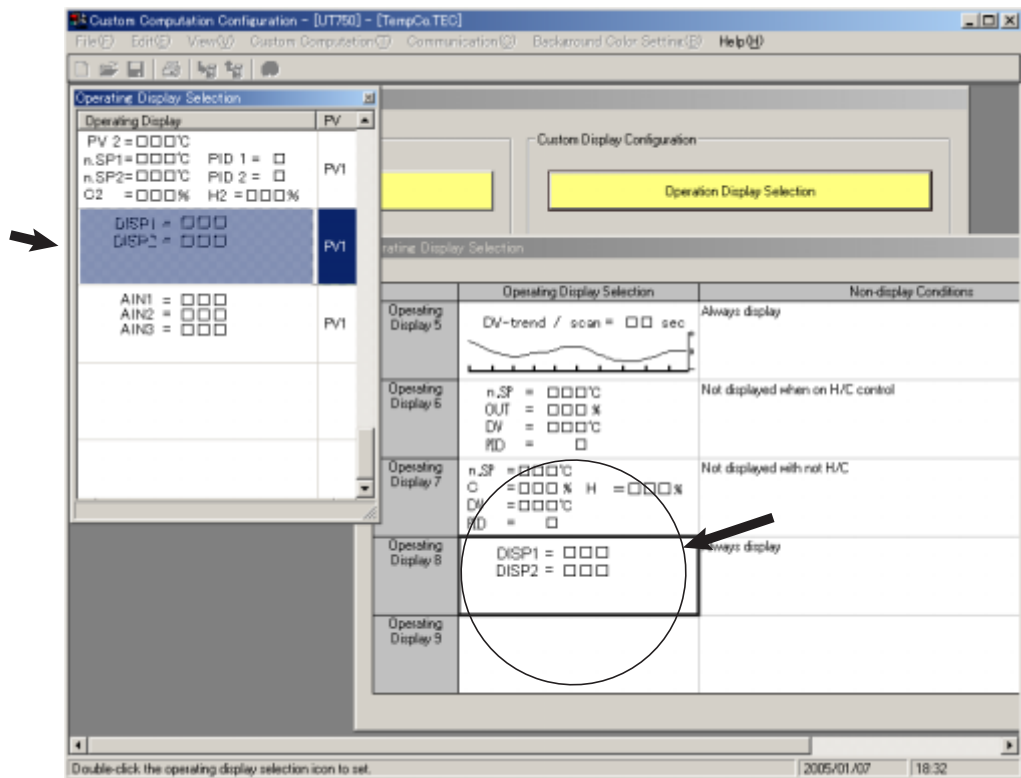
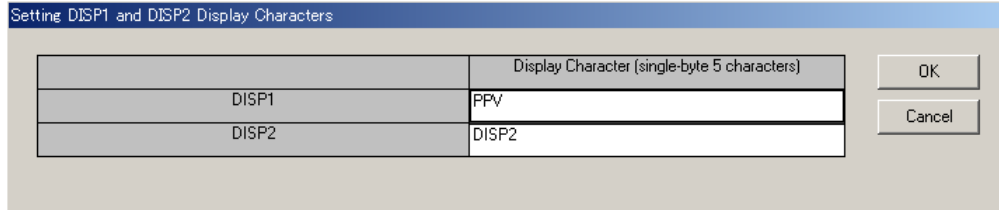

Figure 12.2.9 Registration of [DISP1 & DISP2] Display
Figure 12.2.10 [Setting DISP1 and DISP2 Display Characters] Dialog Box
- (1) Click <Display Character Setting> in the dialog box shown in Figure 12.2.9. The [Setting DISP1 and DISP2 Display Characters] dialog box (Figure 12.2.10) appears.